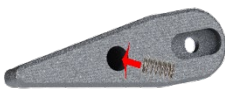
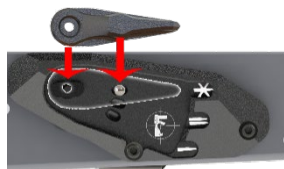

fig. 12
fig. 13
- h) Ensure the Selector Detent Spring (I) is seated in the pocket of the Selector Lever (H) (See fig. 12), then place the Selector Lever (H) on the Selector Plate (C). Ensure that the cutout in the Selector Lever (H) engages the slot shape on the top of the Selector Lever Spacer (F), and the Selector Detent Spring (I) engages the Selector Ball Detent (J). (See fig. 13)